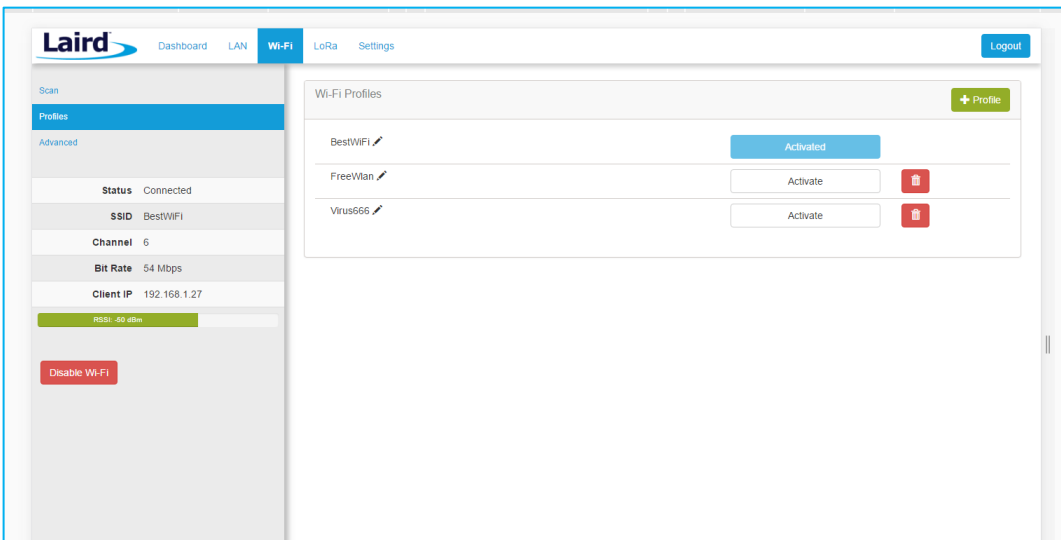

Figure 16: Wi-Fi profiles page
1. Click the **LAN** button in the main menu, then click the **Profiles** button in the left menu. This page is useful for adding a hidden Wi-Fi network that is not broadcasting its SSID (Figure 16).